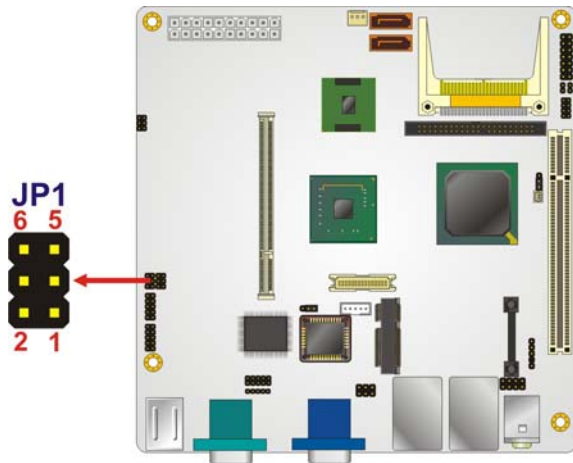

Figure 5-6: COM3 RS-232/422/485 Selection Jumper Location
- Jumper Location:** See Figure 5-6
The RS-232/422/485 Serial Port Selection jumper location is shown in Figure 5-6.